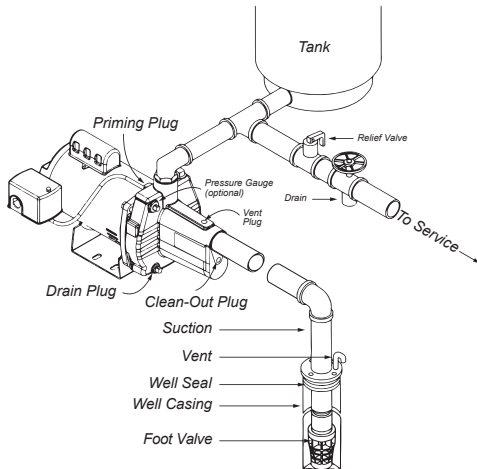

FIG. 2A SHALLOW WELL (WITH FOOT VALVE)
- Service Line:** The service line should be connected as shown in Fig. 2a, b, c or d. The size of the service line required is governed entirely by the amount of water needed and the length of the pipe. The pipe selected should be large enough so that the friction loss (determined from Table 2, Friction Loss Chart) will never exceed 20 ft (6m) head.